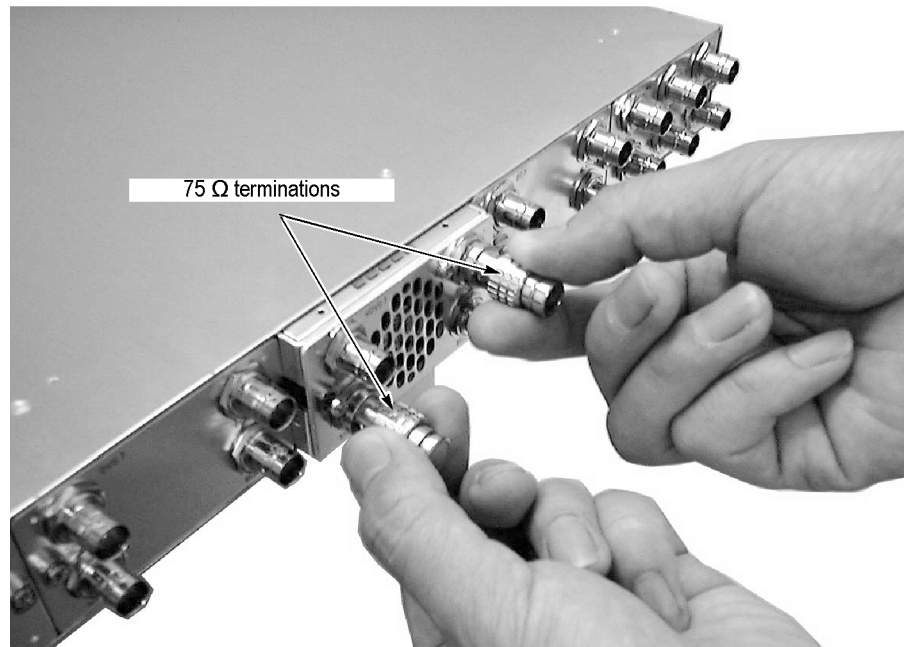

Figure 7: Removing the module
4. Pull the module slowly toward you while supporting the terminations or BNC cables attached to the connectors. (See Figure 7.)